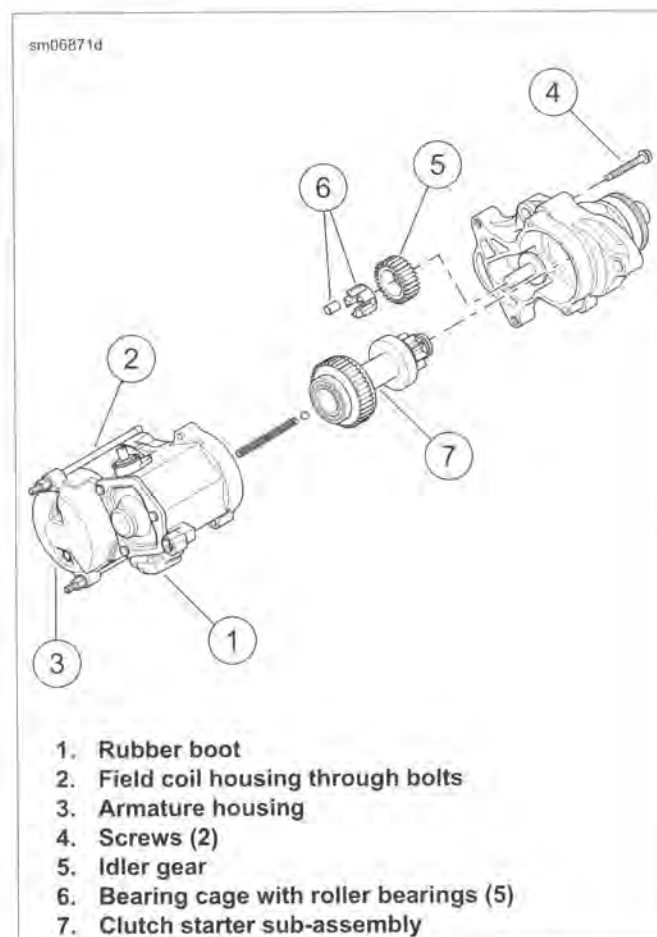

Figure 7-9. Clutch Starter Sub-Assembly and Housing
- See Figure 7-9. Pull up rubber boot (1) and remove hex nut with captive lockwasher to release field wire from terminal post on solenoid housing.
- Loosen two through bolts (2) to release field coil housing from solenoid housing.
- See Figure 7-9. Verify that the idler gear (5) rotates freely without drag or sticking.
- Inspect roller bearings (6). Bearings must rotate freely without drag or sticking. Replace starter motor if the bearings are pitted or grooved.
1. See Figure 7-9. Assemble starter.
- b. Install bearing cage with five roller bearings (6) onto shaft in drive housing.
- c. Confirm that all five roller bearings are installed in grooves of bearing cage and install idler gear (5) over bearing cage.
2. Lubricate bearings with LUBRIPLATE 110 before installation. Install **new** clutch starter sub assembly (7) in drive housing seating the larger bearing in the counterbore.